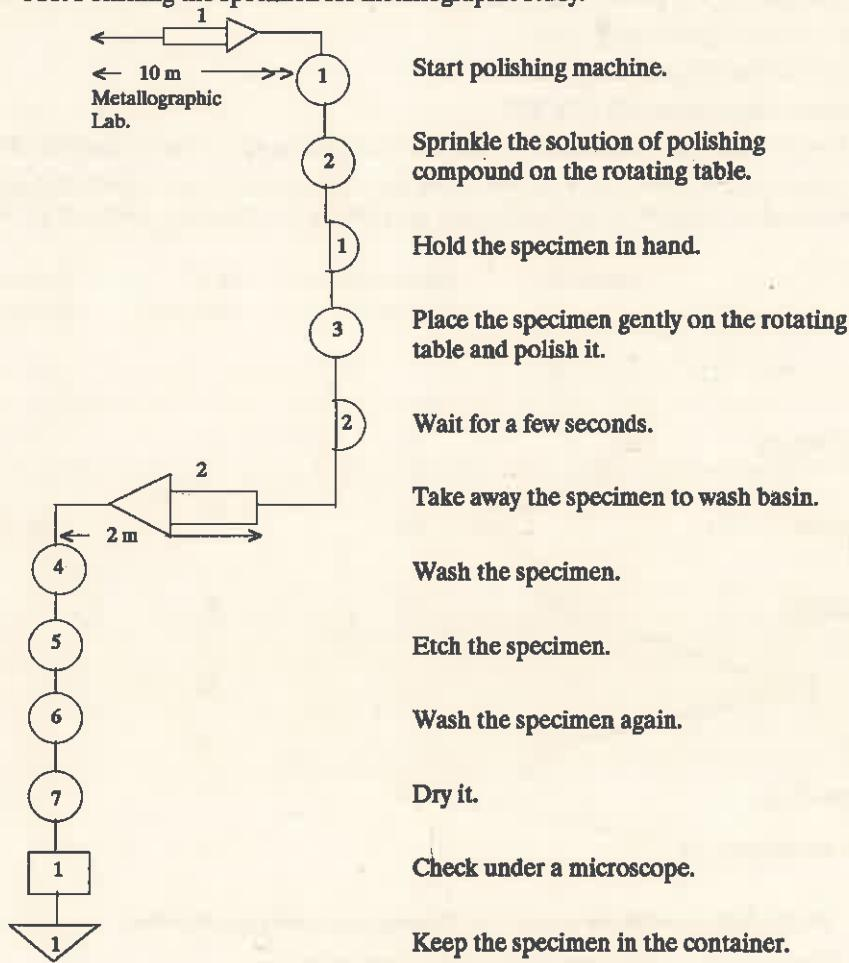

Fig. 9.3. Man type flow process chart.
- (a) Flow process chart (Man) (Fig. 9.3),
A flow process chart can be plotted in another manner also. Figure 9.3 shows an example of man type flow process chart plotted otherwise.